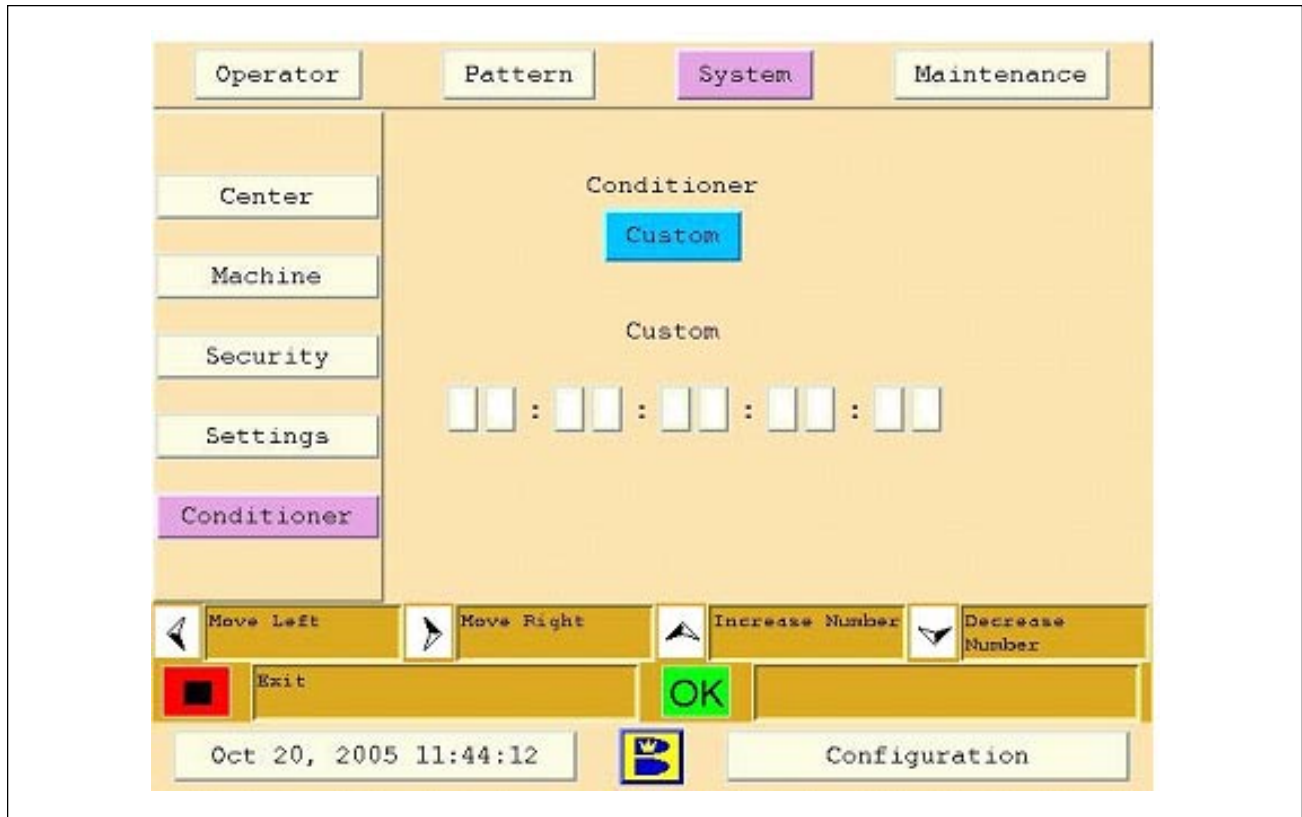

Figure 4-20. Conditioner
1. Go to the System menu. Refer to Figure 4-20.